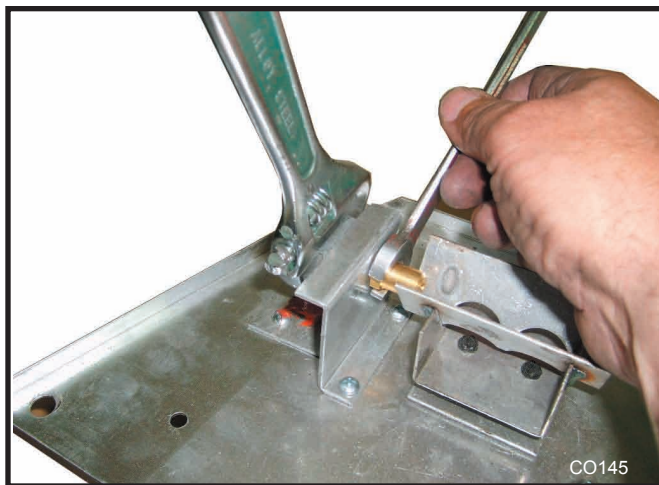

Fig. 74 Use two wrenches to avoid damage to manifold.
3. Remove injector orifice from left burner bracket with a 1/2" wrench. Use a back up wrench to prevent damage to the manifold. (Fig. 74)